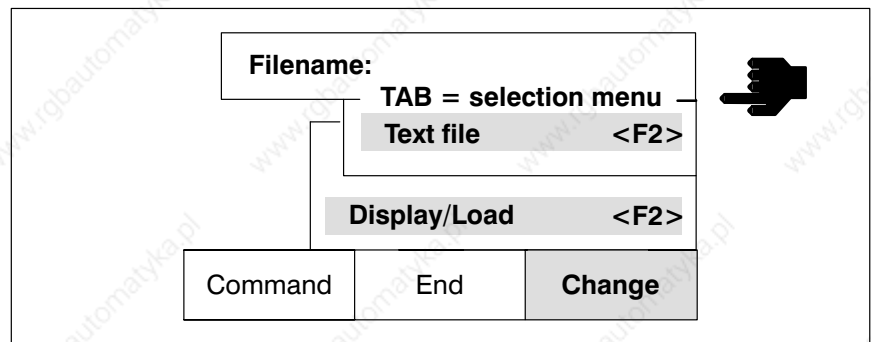

Fig. 3–39 Change menu
- ★ Refer to table, Fig. 3–40 for the decimal code of the character { (123).